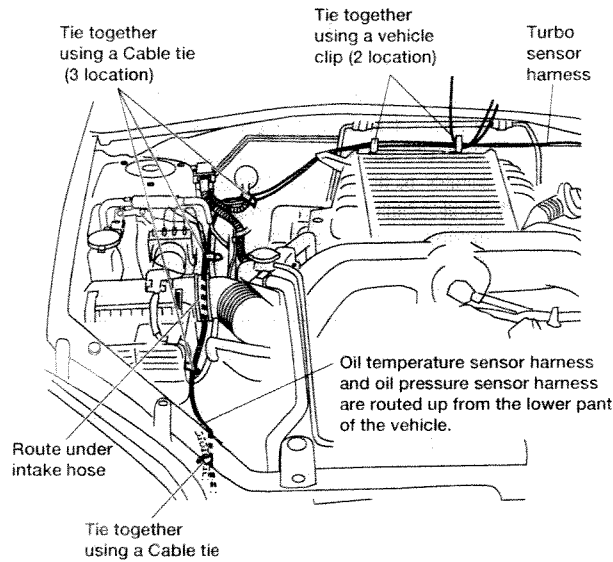

Figure 4-1
1. Tie the two sensor harnesses together with the vehicle harness using cable ties and route them around the engine compartment. Route them as shown in Figure 4-1 and tie them together using cable ties (4 locations). (Figure 4-1)